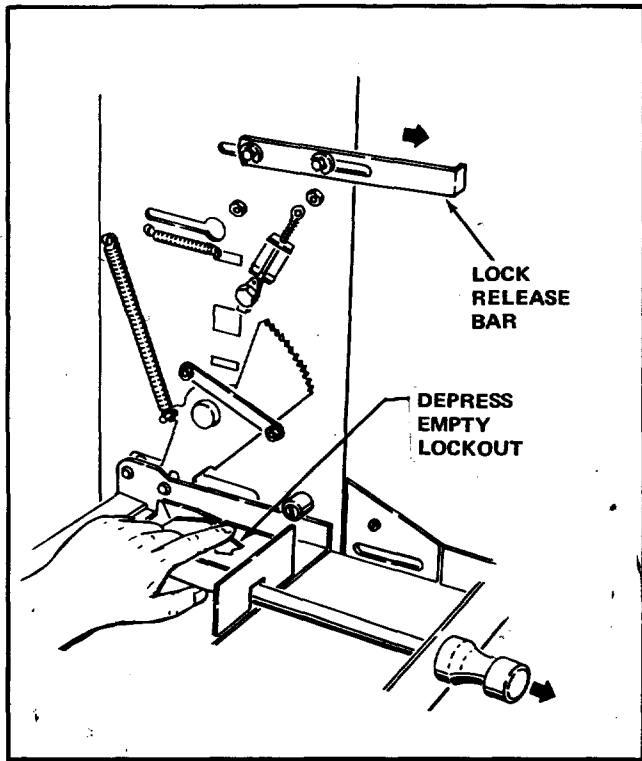

FIGURE III-5
- S. Pull the black Lock Release Bar on the Right Sidewall Assembly to the out position. See Figure III-5.